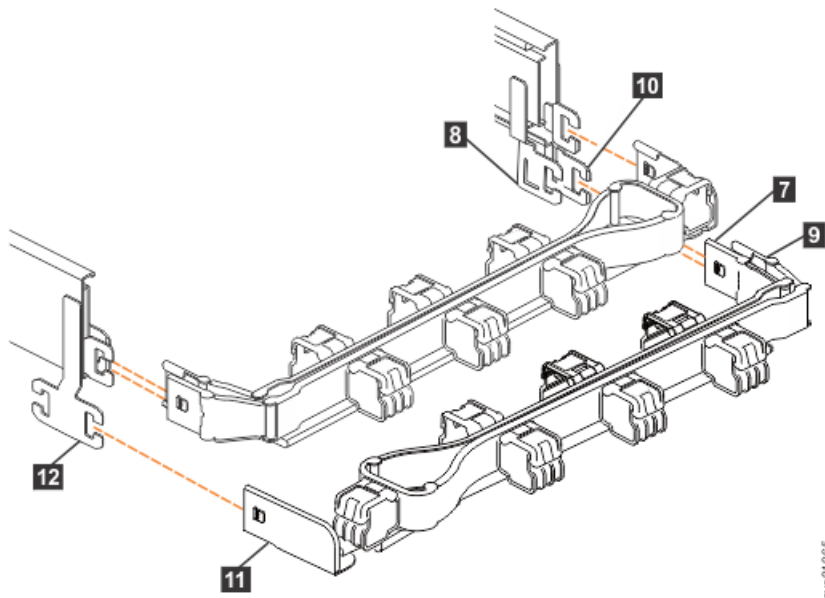

Figure 46. Comparing the location of the components of the CMA assemblies
**Note:** The procedure for attaching the lower CMA assembly is the same as the procedure to attach the upper CMA assembly. However, the connector locations are reversed. For comparison, Figure 46 on page 59 shows the upper and lower CMA assemblies as they are aligned to the support rails. The support rail connector of the upper CMA attaches to the right rail. The support rail connector of the lower CMA **11** attaches to the left rail.
5. Install the inner connector of the lower CMA assembly (**7**) to the inner member of the right support rail (**8**), as shown in Figure 46 on page 59.
6. Install the outer connector of the lower CMA assembly (**9**) to the outer member of the right support rail **10**, as shown in Figure 46 on page 59.
7. Attach the support rail connector on the lower CMA assembly (**11**) to the connector on the left support rail (**12**), as shown in Figure 46 on page 59.